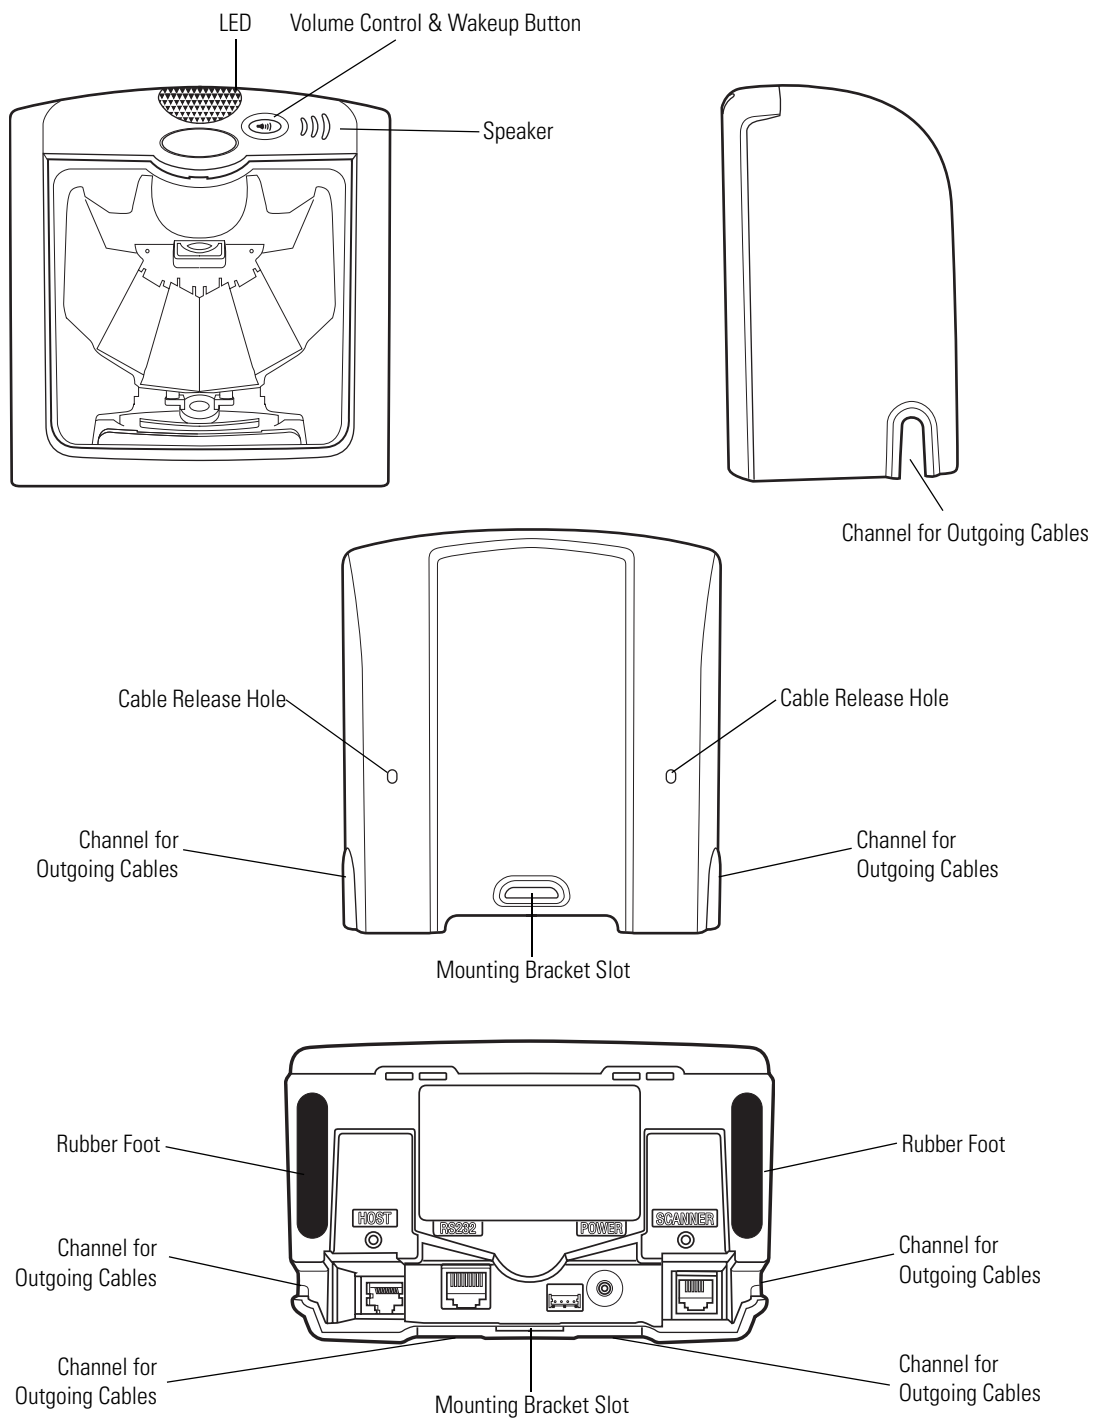
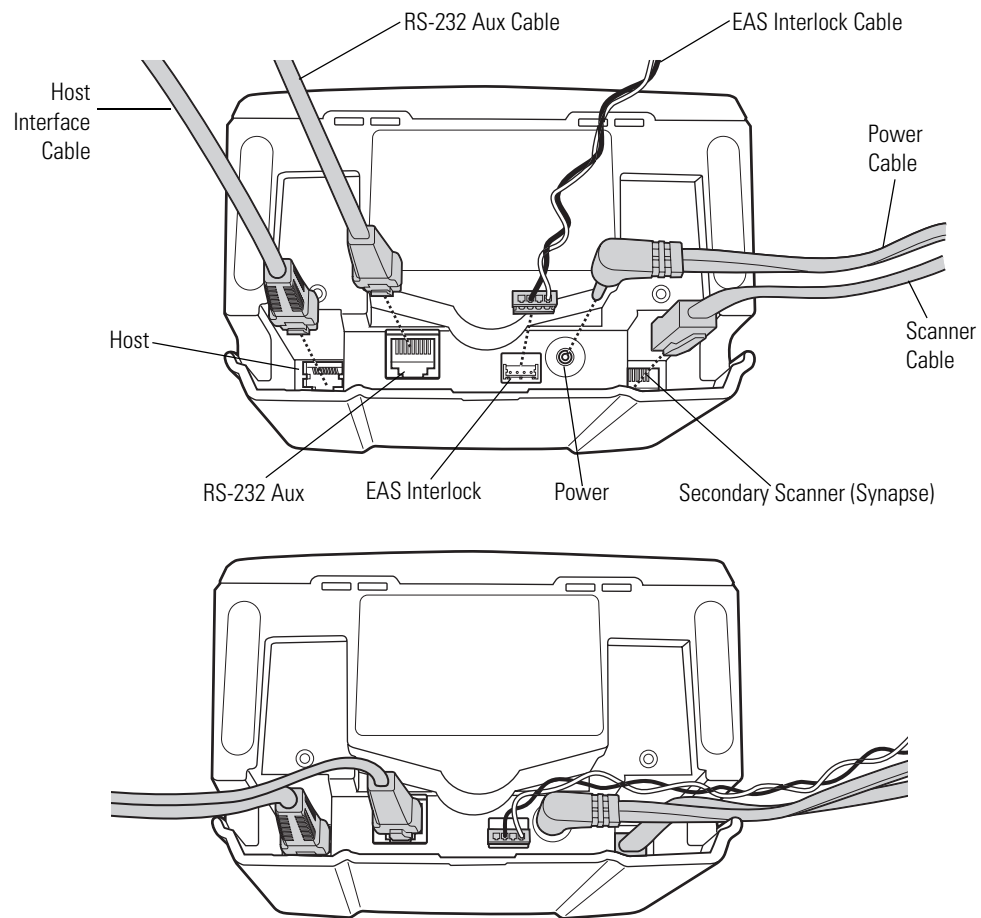
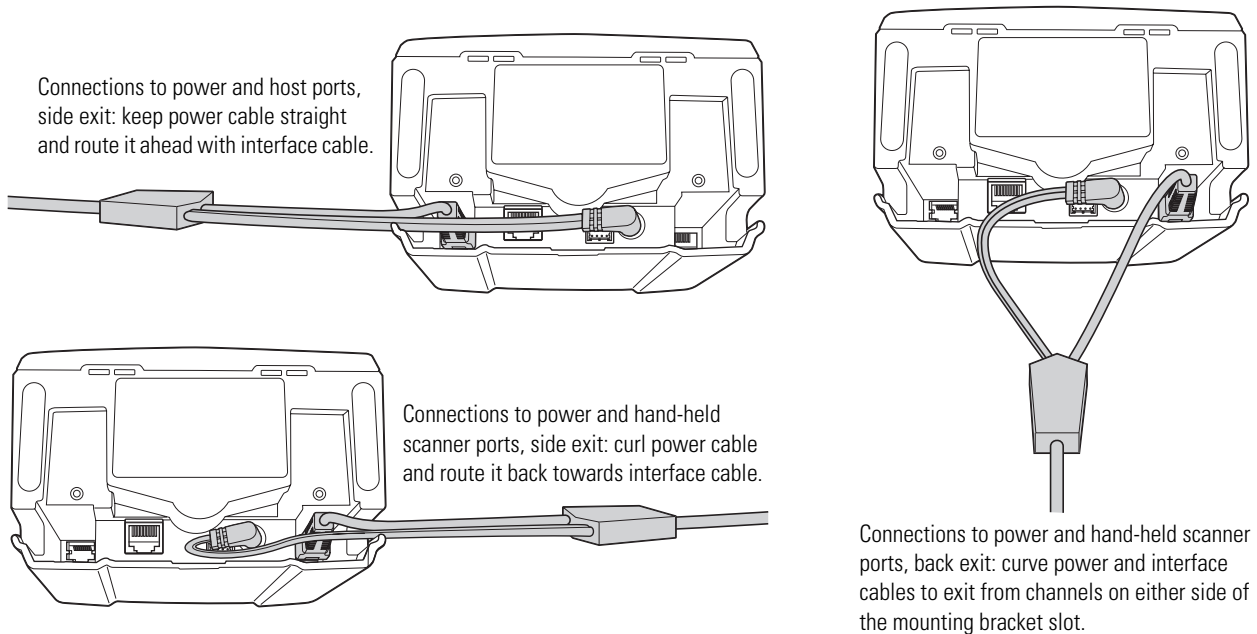

Figure 1-1. LS 7708 Scanner Views
Figure 1-3. Scanner Connections
Figure 1-4. Cable Routing Options
Connect the cables in the following order (see Figure 1-3):
The scanner case has several channels to route the outgoing cables so that they are organized and don't hinder the scanner's placement (see Figure 1-1 and Figure 1-3). After placing the cable connectors in the appropriate scanner ports, route the cables through the nearest channel.
2. Route the cables according to the appropriate diagram in Figure 1-4.
1. Connect all interface and power cables to the scanner (see Figure 1-3 on page 1-7). Route the cables appropriately for the mounting and cable configuration (see Figure 1-4).